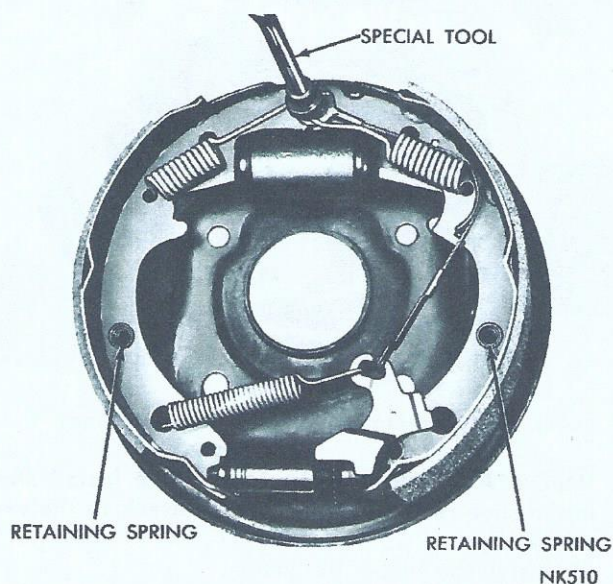

Fig. 5—Removing the Brake Shoe Retainers, Springs and Pins
(2) Remove the brake shoe retainer, spring and pins (Fig. 5).